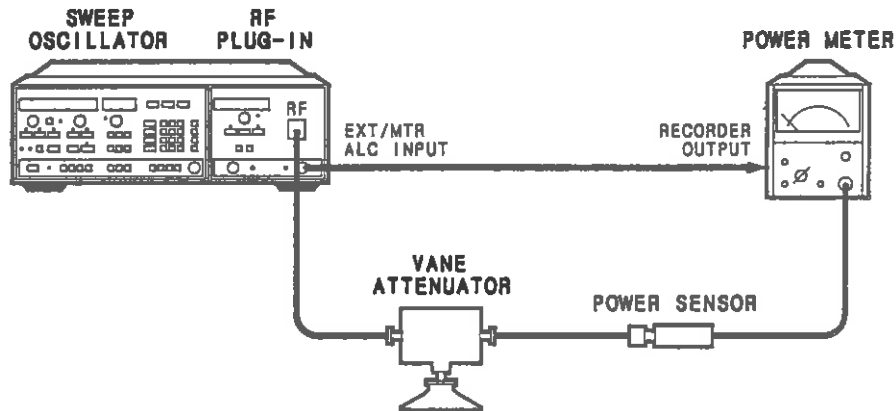

Figure 5-18. Power Meter Leveling Adjustment Setup
1. Connect the equipment as shown in figure 5-18. Set the vane attenuator to 10 dB. Set the power meter to the 0 dBm range. On the sweep oscillator, press: